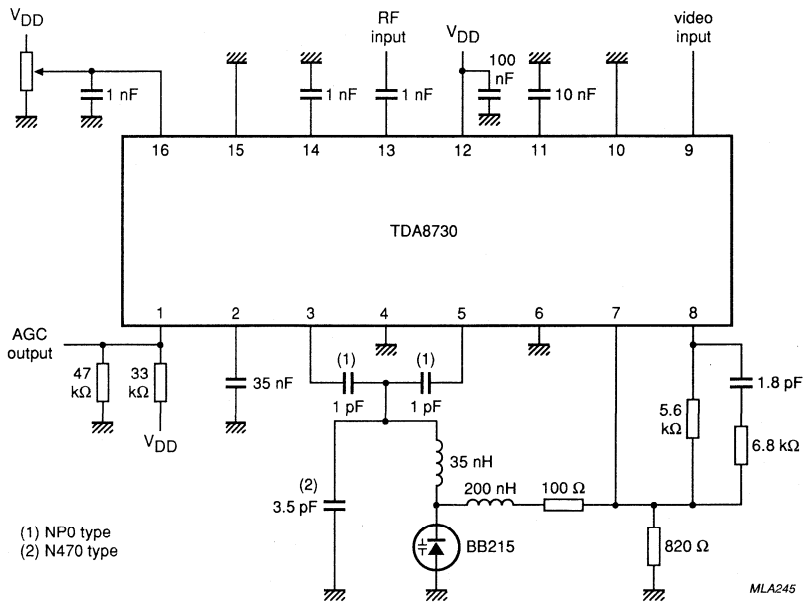

Fig.4 Application information.
The current consumption of this application is given by the addition of the supply current of the circuit plus the current consumption of external components in the application given. In this event (Fig.4) the typical current is 80 mA.
- The circuit of Fig.4 is designed for an input level of 70 dB μ V.
However, for levels other than 70 dB μ V the optimum loop filter values will be different from those given in Fig.4.
- In the application circuit of Fig.4 the RF input is asymmetrically driven.
voltage signal to control the 728 kHz according to the application diagrams of Fig.4 or 5.